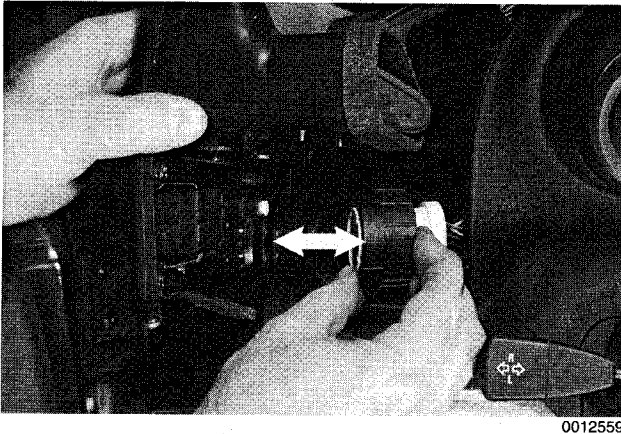

Fig. 10. Removing headlight switch electrical harness connector (arrow).
1. Remove left side dash insert and disconnect harness connector to headlight switch. See Fig. 10.